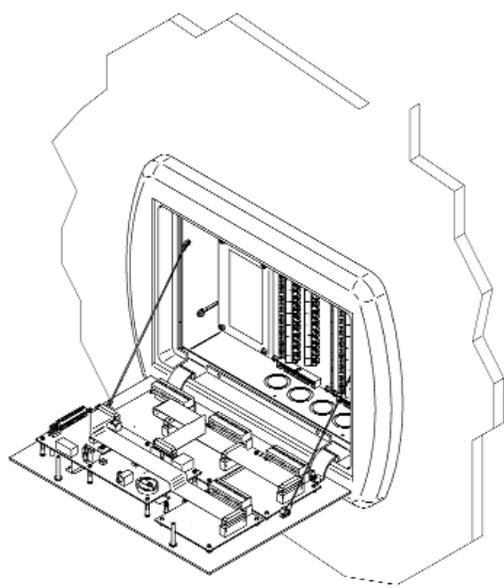

Figure 32: Attach Front Panel and Lanyards
4. Attach front panel to alarm panel back box using screws removed in step 2 (Figure 32).